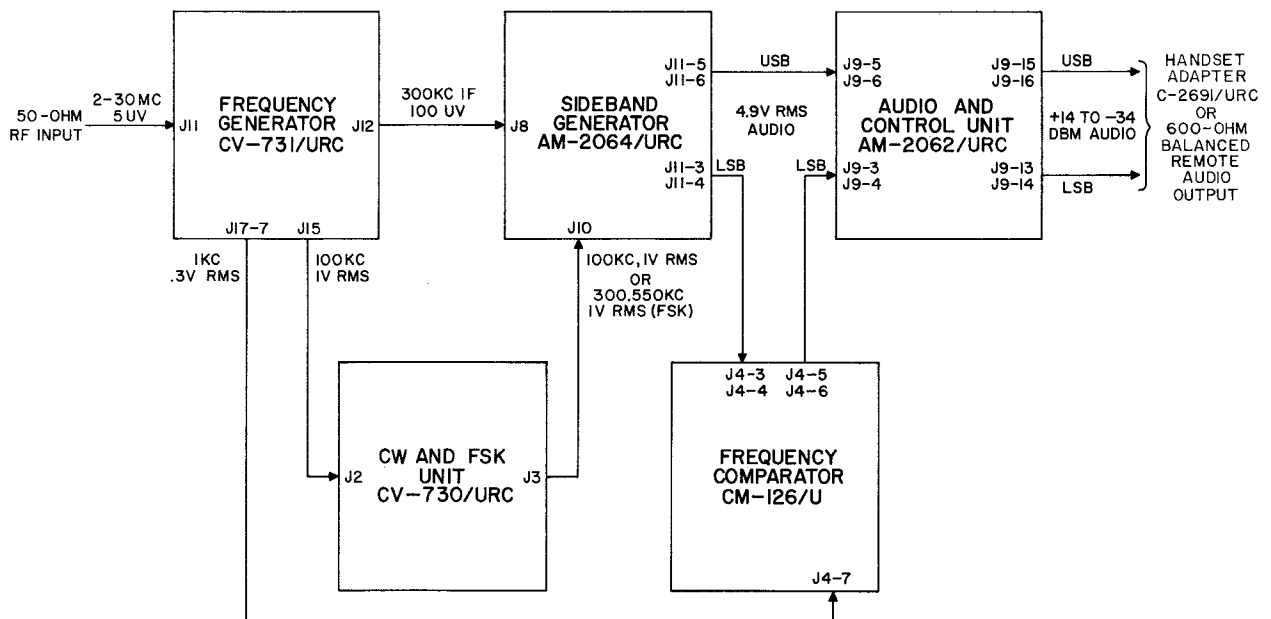

Figure 4-3. Radio Set AN/URC-32( ), Receive Circuit, Functional Block Diagram
b. RECEIVE SIGNALS. - Figure 4-3 is a functional, block diagram of the receive circuit. The receive r-f input signals received at the input of frequency generator are heterodyned down to a 300-kc i-f signal by the frequency generator. The 300-kc i-f signal is applied to the sideband generator. A 1-kc signal output from the frequency generator is applied to Signal Comparator CM-126/UR (frequency comparator) for frequency monitoring purposes. A 100-kc signal output from the frequency generator is applied to the CW and FSK unit to be sent on from the CW and FSK unit to the sideband generator. On FSK operation, the CW and FSK unit applies a 300.550-kc signal to the sideband generator instead of the 100-kc signal. The 300.550-kc signal is used to obtain the audio tone outputs of 2125 cps on space and 2975 cps on marks from the sideband generator. This conversion is necessary for operation with standard Navy teletypewriter converters having a center pass-band frequency of 2550 cps. The sideband generator heterodynes the i-f signals down to audio signals. The selected audio output signals from the sideband generator are applied to the audio and control unit. The USB audio signals are applied directly to the audio and control unit, and the LSB audio signals are applied through the frequency comparator. The audio and control unit amplifies the audio signals and sends the signals out to the handset adapter or to the 600-ohm balanced remote audio lines.